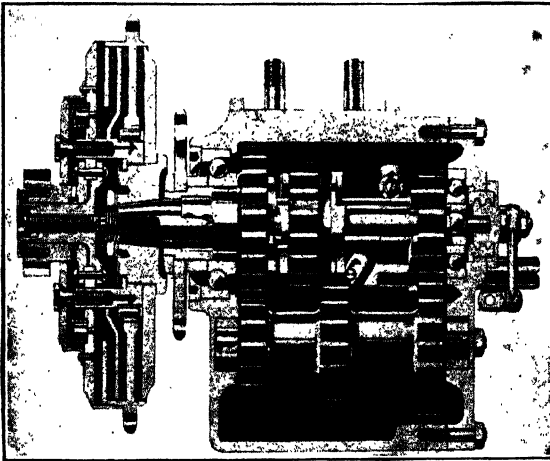

Fig. 43. Indian Multiple-Disc Clutch and Three-Speed Gear Set
**Clutches.** Several kinds of clutches are used on motorcycles, the one most used being of the multiple dry-disc type, as shown at the left end of Fig. 43. This consists of a number of thin metallic discs faced with fabric brake-lining material and keyed alternately to the center shaft and the containing drum. When springs are allowed to thrust these plates tightly together, the amount of friction generated makes a reliable drive between the drum and the central shaft. Suitable mechanism is arranged so that, when it is desired to disengage the clutch, a lever or pedal can release this spring pressure and allow the discs to run free without friction between them.
A smaller three-speed gearset used on the Indian motorcycle is shown in Fig. 43 in connection with the disc clutch attached. In this case a single sliding gear on the principal shaft makes all the connections and gives a progressive gearset of extreme simplicity. A gearset is a necessity on motorcycles intended for passenger use.